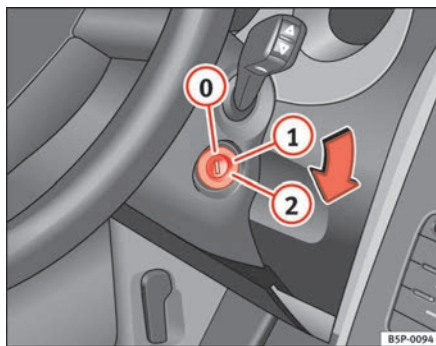

Fig. 96 Ignition key positions
In the position ⇒ fig. 96 the ignition and the engine are OFF and the steering may be locked.
- Turn the ignition key to position ⇒ page 129, fig. 96 ①. The indication lamp  will light for engine pre-heating.
- When the warning lamp goes out, turn the key to position ② to start the engine. Do not press the accelerator.
- Turn the ignition key to position ⇒ page 129, fig. 96 .